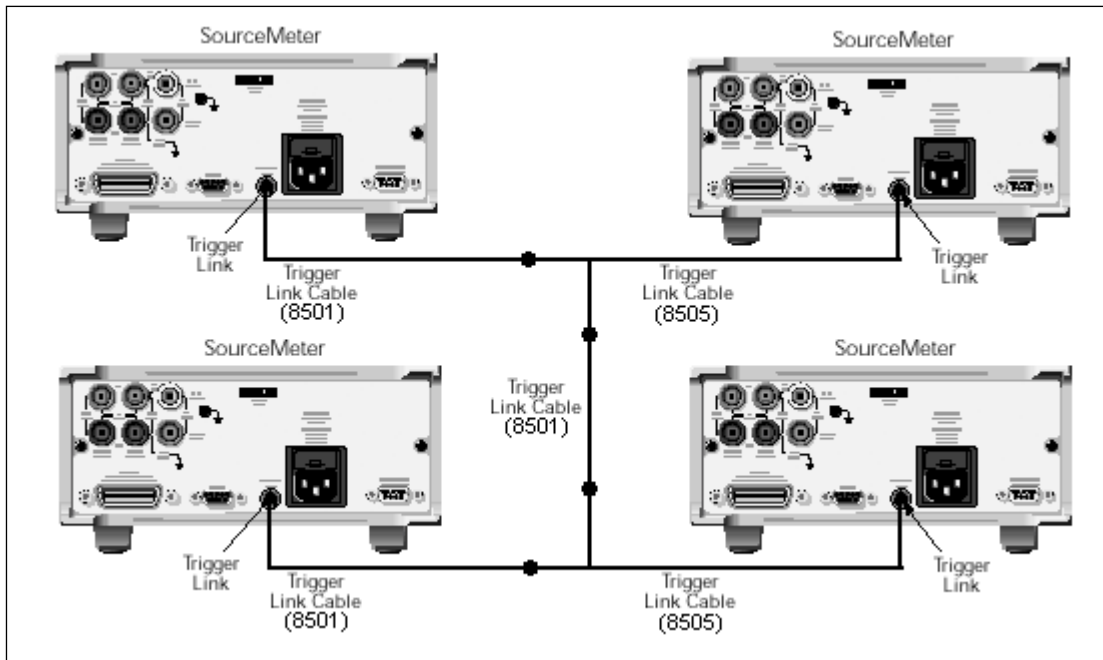

Figure 2. Trigger Link connections
- Model 8501 and/or 8505 Trigger Link cables, based on number of SourceMeter instruments. Refer to **Figure 2** and the accompanying explanation of Trigger Link requirements.